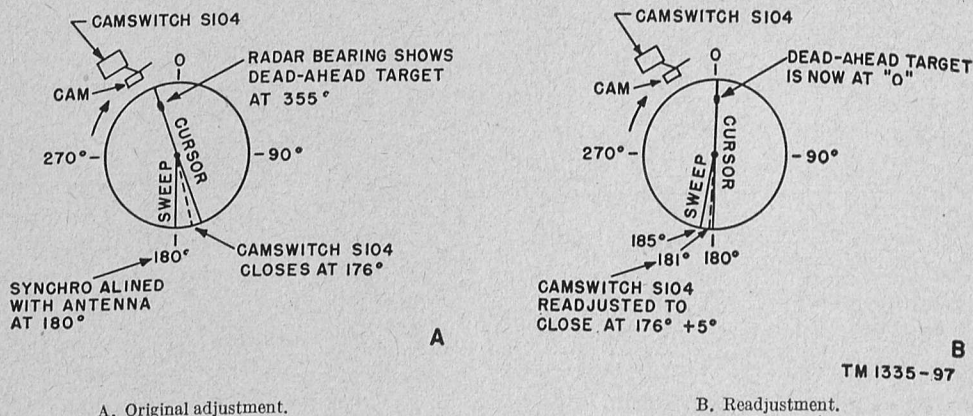

Figure 48. Camswitch.
The synchro system is alined carefully at the factory. With perfect alinement of the antenna base in the fore-and-aft direction, radar bearings will be identical to sight bearings. Assume, however, that the antenna base is installed 5° off the ship center line, so that a dead-ahead target appears at 355° on the indicator azimuth scale (fig. 48). Because of the 10-to-1 gear ratio between the synchro receiver and the deflection coils of the PPI, the required *correction* is equal to the error multiplied by the gear ratio. The procedure for making the correction is given in *a* below.
- (5) The indicator cam is adjusted at the factory so that when the cam is rotated clockwise and the switch just operates, the PPI sweep is at 176° on the azimuth scale (A of fig. 48). Readjust the position of the cam as follows:
- (c) Rotate the cam slowly until the cam switch just closes with the PPI sweep at 176° plus or minus the error. If the dead-ahead target appeared to the left of 0° (dead-ahead) on the azimuth scale (A of fig. 48), the switch should be set to operate at 176° plus the error (B of fig. 48); if the dead-ahead target appeared to the right of 0° the switch should be set to operate at 176° minus the error.
- (1) When the radar set is first turned on, the synchro relay K101 will operate to aline the PPI sweep with the antenna rotation. After this initial alinement cycle, there should be no jerkiness in operation of the sweep in the vicinity of 180° on the azimuth scale.
- (2) To check the alinement action, push the armature of the synchro relay (K101) with a pencil to close the relay for about 1 second. When the relay contacts are released, the system should realine itself and operate smoothly.
- (3) Repeat the procedure in (2) above several times to make sure that all settings are correct. If operation is unstable or if fuse F803 blows out, it may be necessary to repeat the entire alinement procedure (a above) to correct the trouble.